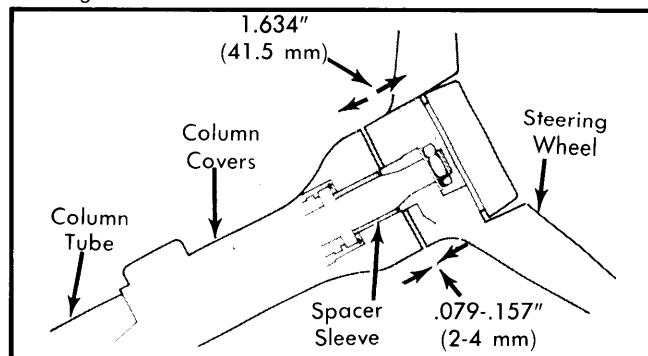

Fig. 2 Measurements for Installing Spacer Sleeve
2) When installing steering lock and spacer sleeve, clamp lower steering shaft to upper flange with tool VW 267a. Make sure distance from top of column tube to top of upper steering shaft (with steering wheel and nut installed) is 1.634" (41.5 mm) and space between column switch and steering wheel is .079-.157" (2-4 mm). See Fig. 2.